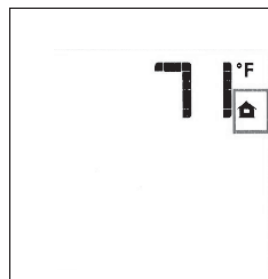

Figure 58. Burner shut-down
- Press the ON/OFF Key. The display will show only the room temperature and icon. At the same time, the Receiver will deactivate the call for heat and the burner will shut down. Fig. 58. A single “beep” from the Receiver will confirm reception of the command.